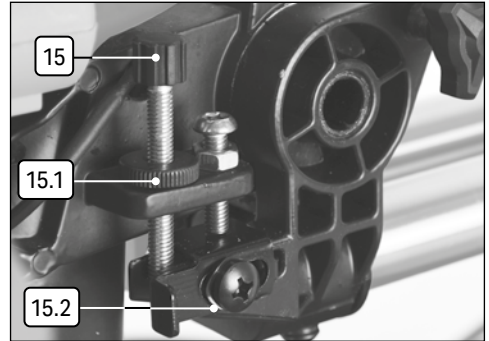

Fig. 10
6.10 Depth of Cut Stop – Fig.10
- When the saw arm is lifted, the depth of cut stop (15.2) can be pulled out so that the depth adjustment screw (15) contacts the stop as the saw arm is lowered.
- This restricts the cut to an adjusted depth in the workpiece. The depth of cut can be adjusted with the adjustment screw (15) and locked in position with lock nut (15.1).